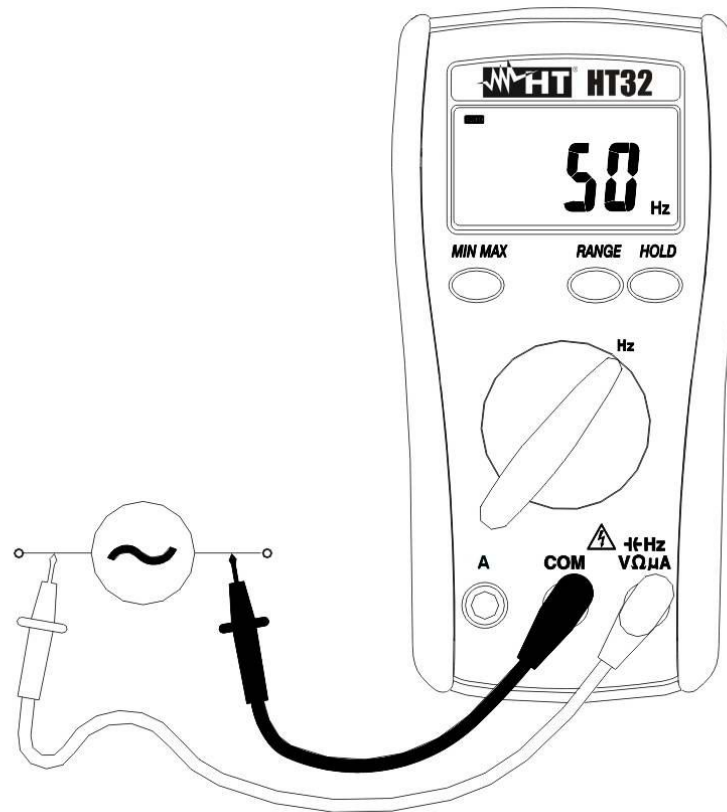

Fig. 6: Frequency measurement
2. Insert the test leads into the jacks, the red plug into **HzVΩμA** jack and the black plug into **COM** jack (Fig. 6).